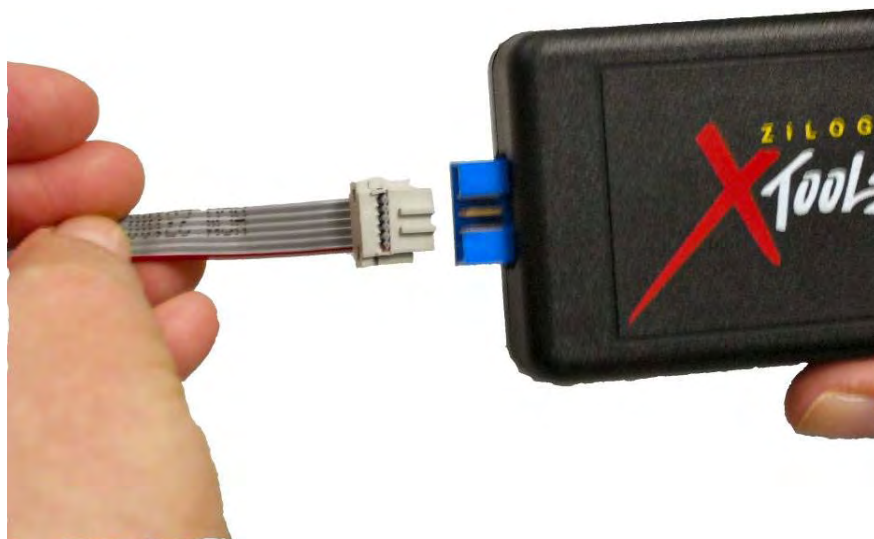

Figure 11. Connecting the Six-Conductor Ribbon Cable to the USB SmartCable
1. Attach one end of the six-conductor ribbon cable (included) to the USB SmartCable six-pin DBG connector, as shown in Figure 11.